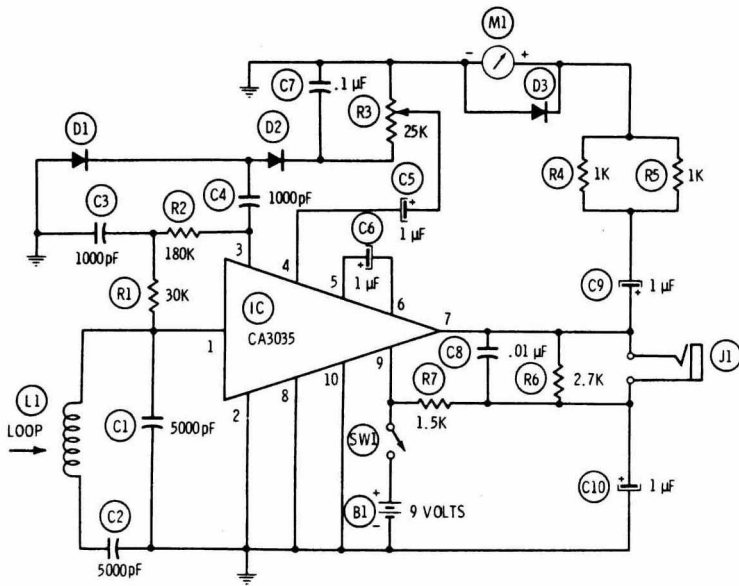

Figure 3: Receiver circuit.
*Receiver* - The receiver circuit (Fig. 3) is designed around a very high-gain, linear IC that contains three separate high-gain amplifiers. When connected in a cascade amplifier configuration, the IC has a gain of 129 dB.